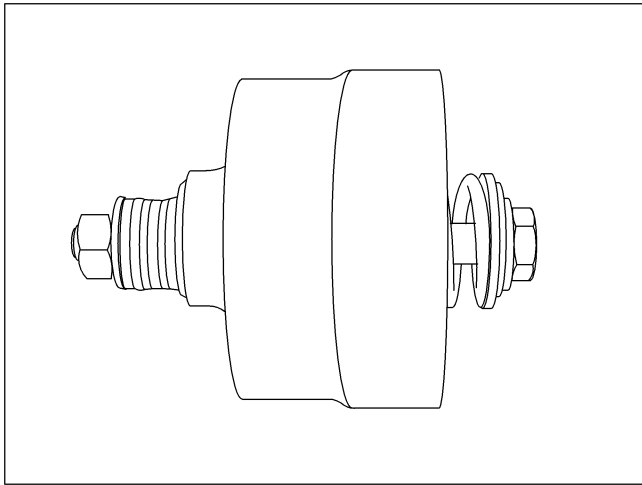

Figure 14. Cylinder block subassembly disassembly tool. (Tighten nut, remove snap ring, loosen nut to relieve spring tension).
The spring located within the cylinder block S/A is under a high tension and can cause bodily harm if the retaining ring is removed. See Figure 14 for disassembly instructions.
- a. Assemble the spring, two washers and retaining ring into the cylinder block. The washer with three notches is assembled next to retaining ring. See Figure 14 for instructions. Set the cylinder block S/A (40) face on a flat clean surface. Use Kraft paper between the block and surface to prevent scratching the cylinder block face.
- b. Install pin retainer (46) into cylinder block. Position the pin retainer approximately 1/4" below the surface, and orient the open end of the pin retainer to be away from the large spline openings.
- c. Slide the three pins (45) into cylinder block S/A (40) until they bottom against the spring washer with the block.
- d. Place spherical washer (47) on top of the three pins; then install shoe plate (48) with nine piston and shoe subassemblies (49) over spherical washer (47) and into cylinder block. Wobble shoe plate (48) to make sure that each piston is free within its bore in the cylinder block.
- e. Set housing (33) on its side and hold pump shaft (55) horizontal. Slide rotating group into the housing. Rotate the shaft to match the shaft splines to the cylinder block and spherical washer.
5. If alignment pins (37) were removed, install two alignment rollpins (37) into housing (33). Place gasket (36) over the rollpins, cover with Kraft paper and set aside for final assembly.